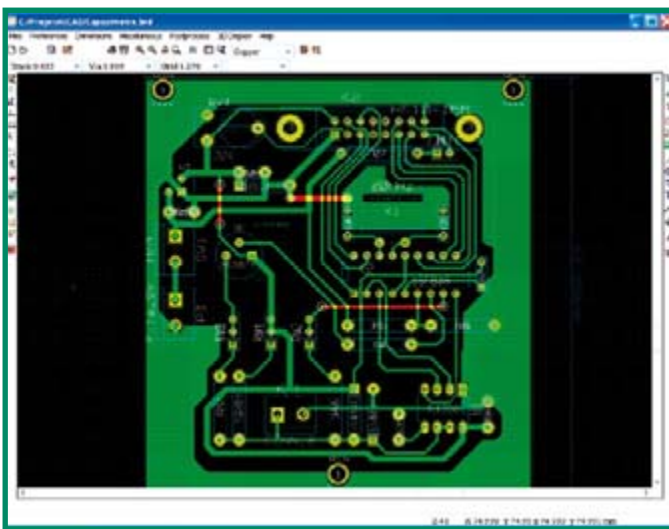
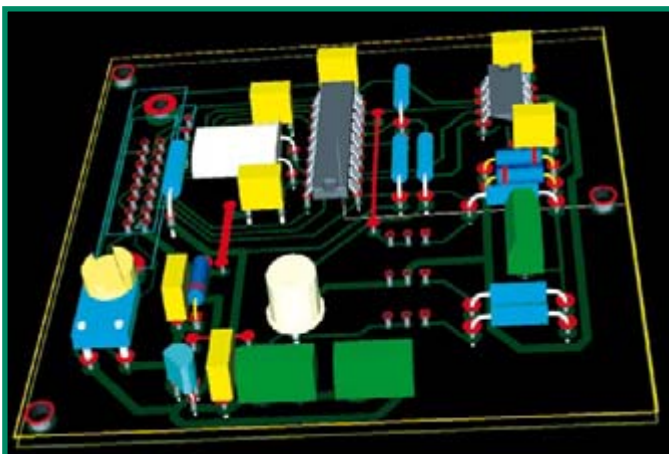
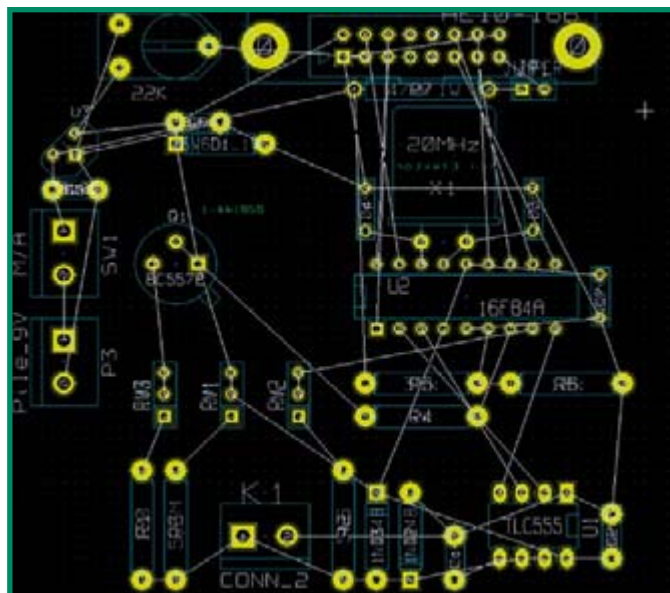

Figure 5. Design PCBNew printed circuits.
Figure 6. 3D display of the capacitance meter as described in *Elektor*.
Figure 7. The rats' nest in white lines.
You gain access to PCBNew from the KiCad project manager (recommended), or directly using the icon (G) (Figure 5). This printed circuit design software is made in the image of EESchema: simple, easy to get used to and easy to use; that does not mean its performance is lagging, here are some examples: 16 copper layers, 12 technical layers (lithography, resist coating, dimensioning, etc.) components, through-hole or SMC, work done to one/ten-thousandth of an inch, dynamic rats-nest, Design Rules Check, ground plane, and it has a very capable high-performance internal router that can operate in a single-sided layer! What more can an amateur ask for? And a 3D view of the board surface just for the visual pleasure. It is shown in Figure 6!
It is already time to move from placement mode to routing mode with the icon **(J)**. With one right click, do Global autorouting → Select layer coupling. It usual to choose a one-sided circuit board; in other words, the top layer will be in copper, just like the lower layer. The autorouting feature (global autorouting → Autoroute all modules), will greatly lessen the work, if it does not route your entire board. All that remains is to finish in manual mode, or to move a few components and re-route the overall project. Manual routing is accomplished, of course, with the mouse, and you will quickly notice that PCBNew knows how to place your traces in a well-disciplined fashion, without laboriously defining the smallest change in orientation. Displaying the rats' nest **(K)**, (see **Figure 7**) enables quick and reliable work. If straps are required, they will be shown on the traces on the component layer (in red on Figure 6). Once the routing has been finished, you can add centring targets, dimensioning, and any other graphics such as a logo, copyright symbol, etc.